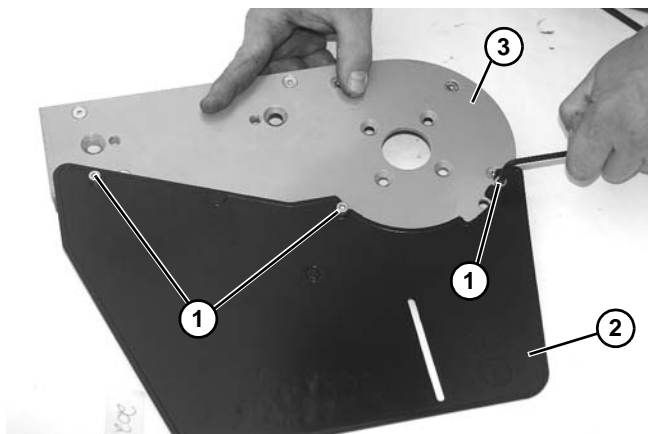

Figure 123
1. Remove three socket head screws (Figure 123, item 1) and remove drive plate guard (Figure 123, item 2) from drive plate (Figure 123, item 3).